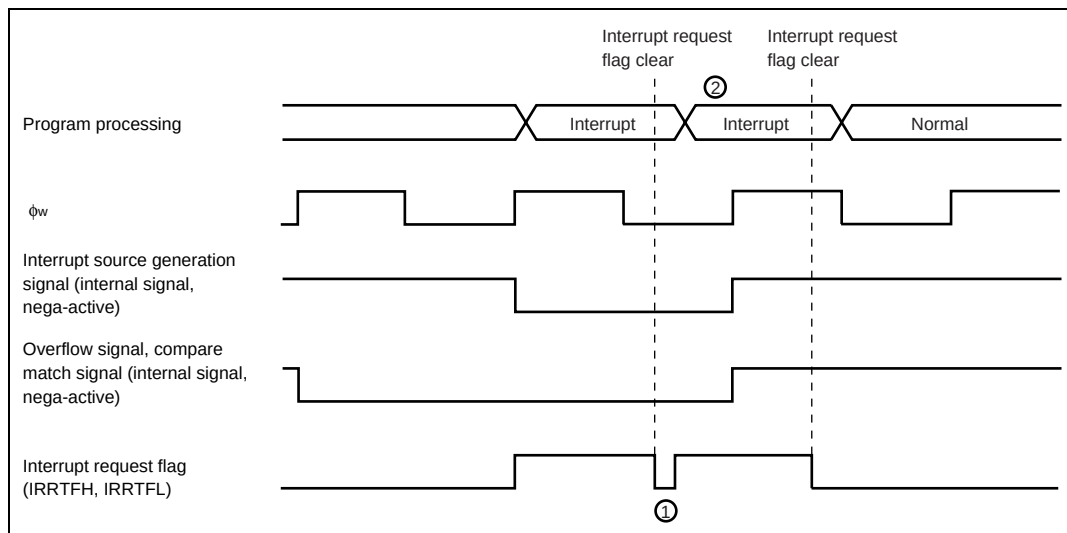

Figure 9.6 Clear Interrupt Request Flag when Interrupt Source Generation Signal Is Valid
Clear Timer FH, Timer FL Interrupt Request Flags (IRRTFH, IRRFL), Timer Overflow Flags H, L (OVFH, OVFL), and Compare Match Flags H, L (CMFH, CMFL): When $\phi_w/4$ is selected as the internal clock, “Interrupt source generation signal” will be operated with ϕ_w and the signal will be outputted with ϕ_w width. And, “Overflow signal” and “Compare match signal” are controlled with 2 cycles of ϕ_w signals. Those signals are outputted with 2 cycles width of ϕ_w (figure 9.6)
In active (high-speed, medium-speed) mode, even if you cleared interrupt request flag during the term of validity of “Interrupt source generation signal”, same interrupt request flag is set. (1 in figure 9.6) And, the timer overflow flag and compare match flag cannot be cleared during the term of validity of “Overflow signal” and “Compare match signal”.
For interrupt request flag is set right after interrupt request is cleared, interrupt process to one time timer FH, timer FL interrupt might be repeated. (2 in figure 9.6) Therefore, to definitely clear interrupt request flag in active (high-speed, medium-speed) mode, clear should be processed after the time that calculated with below (1) formula. And, to definitely clear timer overflow flag and compare match flag, clear should be processed after read timer control status register F (TCSRFB) after the time that calculated with below (1) formula.